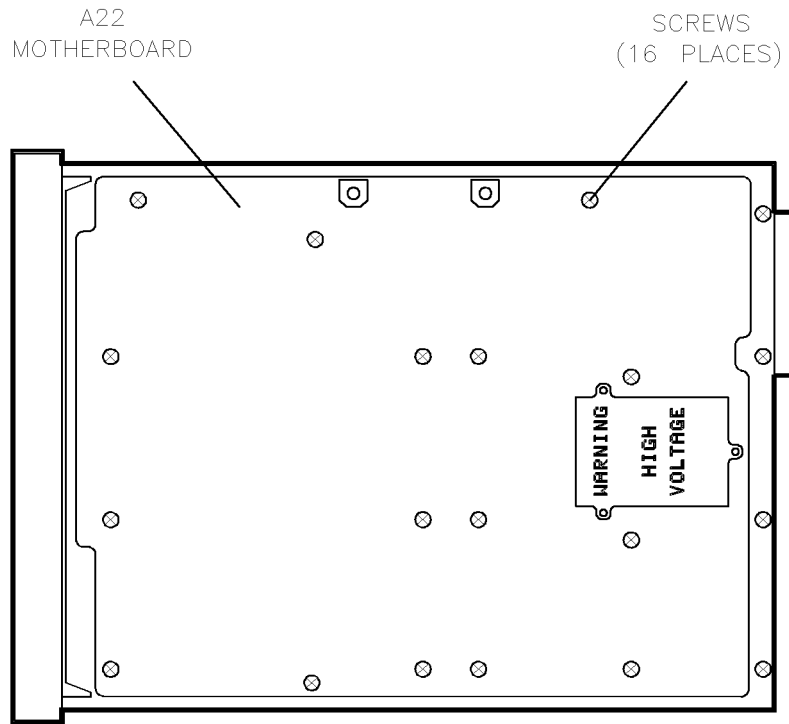

Figure 7-62. Motherboard Screws
3. Remove the 16 screws from the bottom side of the motherboard bottom side Figure 7-62.